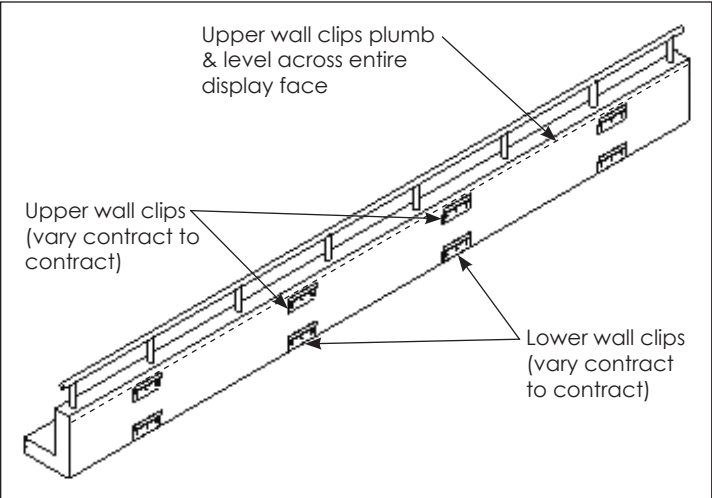

Figure 1: Level Upper Wall Clips
1. Level the upper wall clips. Refer to **Figure 1** and the contract-specific Shop Drawing for details. All upper wall clips must be plumb and level before hanging any sections.
2. Verify the lower wall clips are installed per the contract-specific Shop Drawing if applicable. Refer to **Figure 1**.